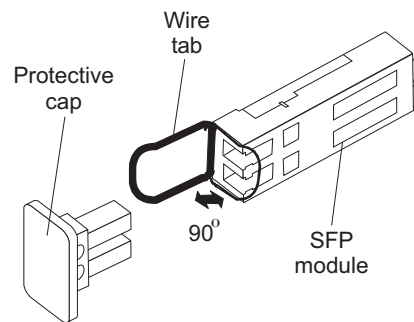

Figure 17. Unlocking the SFP module latch - plastic variety
- For SFP modules that contain plastic tabs, unlock the SFP module latch by pulling the plastic tab outward 10°, as shown in Figure 17.